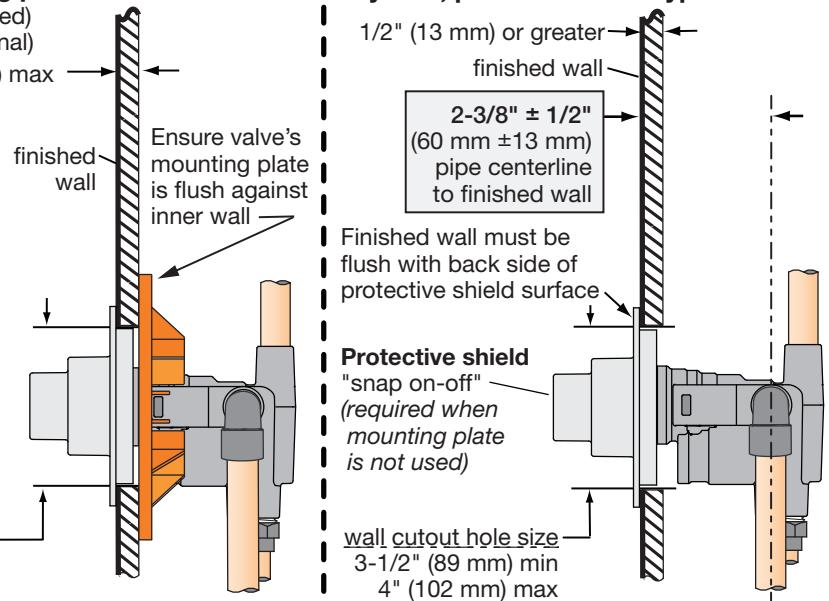

Figure 2 Mounting valve
Attach plastic protective shield by snap fitting over end of valve spindle as shown in Figure 2.
Install through cutout hole in wall as specified in Figure 2 below and Dimensions illustration on page 4.
* Notes: (also reference page 2, figure 2 for details)
- (1) Walls for using T-177 mounting plate (MP)
- (2) Dry wall, plaster or other type walls 1/2" or greater
- (3) Dimensions subject to change without notice